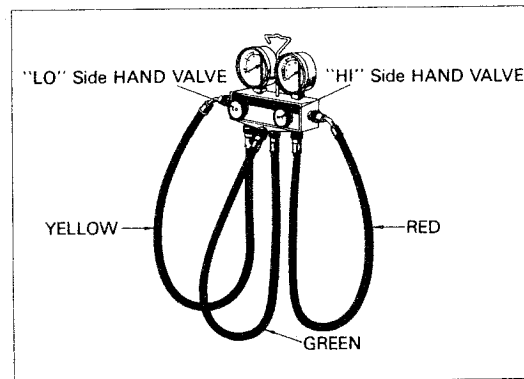

Fig. 47
- D) When the refrigerant charging gauge is not in use, connect the end of the hose to spare fitting of refrigerant charging hose. See Fig. 47.